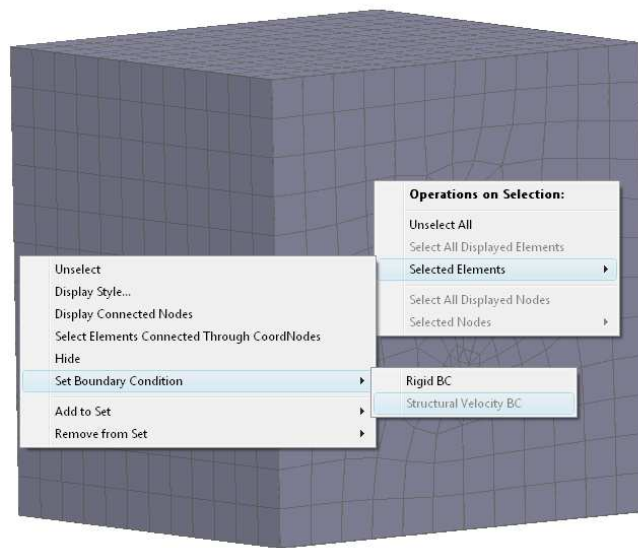

Figure 18: Apply boundary conditions through selected elements.
- Again right-click on the mesh while holding down the *shift-key* and select: **Selected Elements > Set Boundary Condition > Structure Velocity BC** (as shown in Figure 18). If the boundary condition **Structure Velocity BC** is inactive, it implies that it has already been applied over the selected elements.